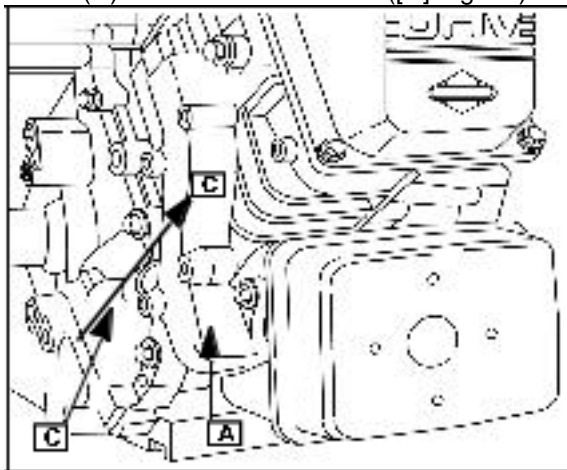

Fig. 14
4. Remove the mounting screws that secure muffler (A) to its support bracket (B) and exhaust manifold ([C] Fig. 14).